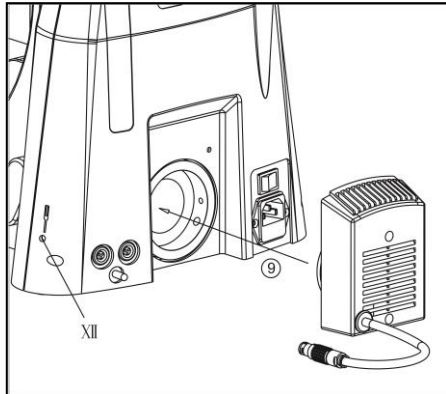

Fig 12
#### **4-2-9 Install the LED Lamp Chamber (fig 12)**
Insert the lamp box into the position at back of chassis base according to the path ⑨ shown in the figure 12.